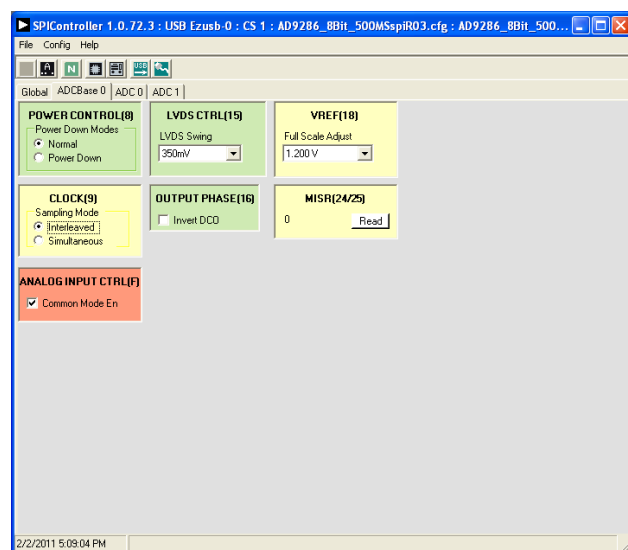
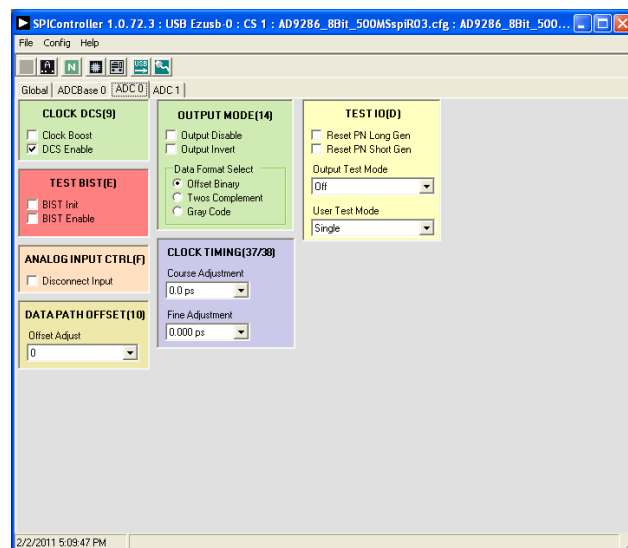

Figure 9. SPIController, ADC Base0
Figure 10. SPIController, ADC 0 Page
3. In the **ADCBASE 0** tab of the **SPIController** window, you can access all global register settings (see Figure 9). See the AD9286 data sheet; the AN-878 Application Note, *High Speed ADC SPI Control Software*; and the AN-877 Application Note, *Interfacing to High Speed ADCs via SPI*, for additional information.
4. Note that other settings can be changed on the **ADCBASE 0** page (see Figure 9) and the **ADC 0** and **ADC 1** pages (see Figure 10) to set up the part in the desired mode. The **ADCBASE 0** page settings affect the entire part, whereas the settings on the **ADC 0** and **ADC 1** pages affect the selected channel only. See the AD9286 data sheet; the AN-878 Application Note, *High Speed ADC SPI Control Software*; and the AN-877 Application Note, *Interfacing to High Speed ADCs via SPI*, for additional information on the available settings.